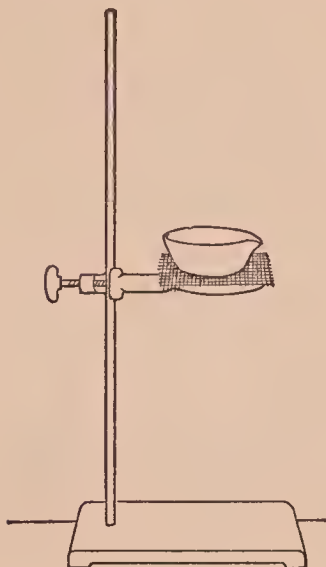

FIG. 24. — Apparatus for concentrating a solution
**APPARATUS.** — Evaporating dish, iron stand, etc. (Fig. 24).
(1) by letting the dish remain undisturbed so that most of the water will evaporate or (2) by heating the dish on a gauze-covered ring which is attached to an iron stand as in Fig. 24. Heat until the volume of the liquid is reduced about one-half, and set the dish aside to cool. Crystals will separate from the solution.